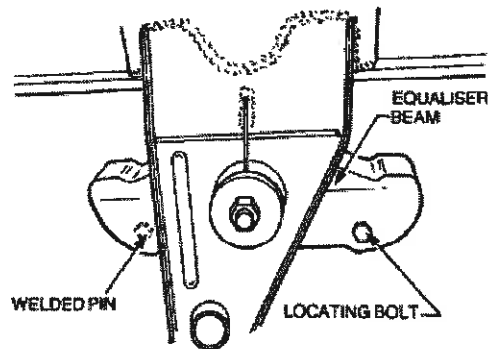

Figure 37 Spring Locating Bolt and Pin
- b. Remove the spring locating bolt and the welded spring locating pin from the equaliser beam (Figure 37).